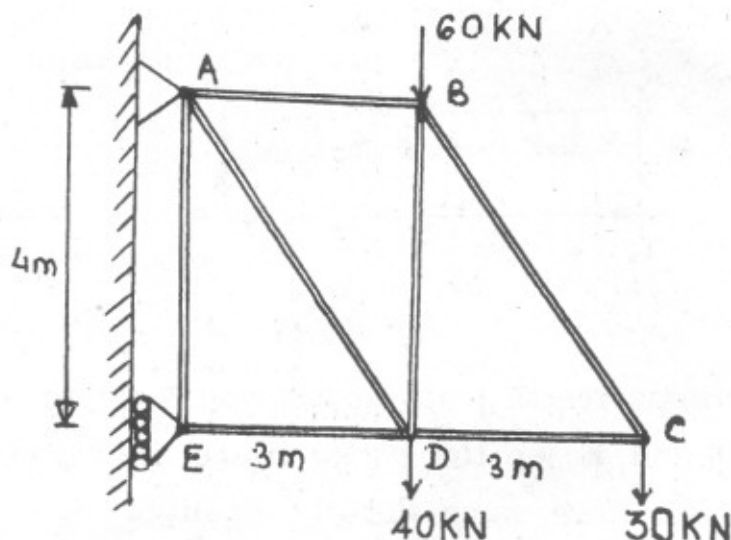

Fig. 5
5. Find vertical deflection of the joint C of the loaded truss shown in Fig. 5. The sectional area of members are as follows :